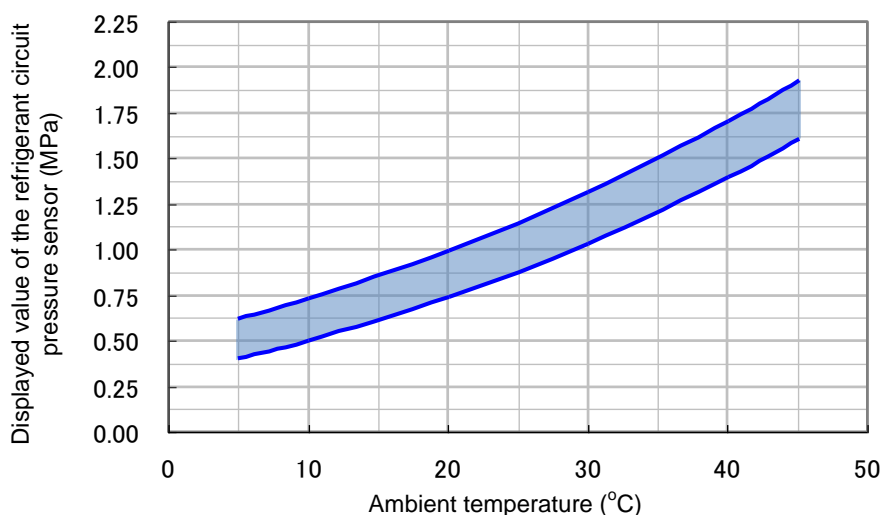

Fig. 3.3-37: Ambient temperature and refrigerant circuit pressure
- (1) Leave the Thermo-Chiller not operating for 24 hours to make the ambient temperature and the temperature inside the Thermo-Chiller the same.
- (2) Check the ambient temperature.
- (3) Check the "Ph: Refrigerant circuit pressure on the high pressure side" value in the "Check Monitor Menu".
- (4) Check if the value at the cross point of the ambient temperature and the "Ph: Refrigerant circuit pressure on the high pressure side" value is within the range (the shaded part) in Fig. 3.3-37. If the cross point is within the range, it means that the pressure sensor is operating correctly.
- (3) Check "PL: Refrigerant circuit pressure on the low pressure side" value in the "Check Monitor Menu".
- (4) Check if the value at the cross point of the ambient temperature and the "PL: Refrigerant circuit pressure on the low pressure side" value is within the range (the shaded part) in Fig. 3.3-37. If the cross point is within the range, it means that the pressure sensor is operating correctly.